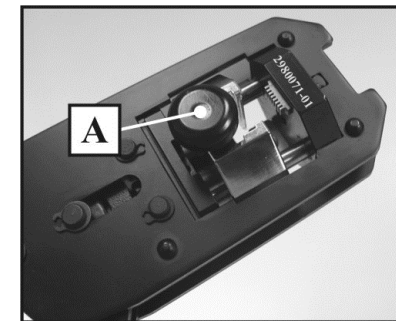

Fig.5.
- ❑ After the full crimping cycle is done, open the tool fully in order to remove crimped plug. Press release button (A) (Fig.5.) at the back side of the tool and pull out the plug assembly. The tool is ready for next crimping cycle.